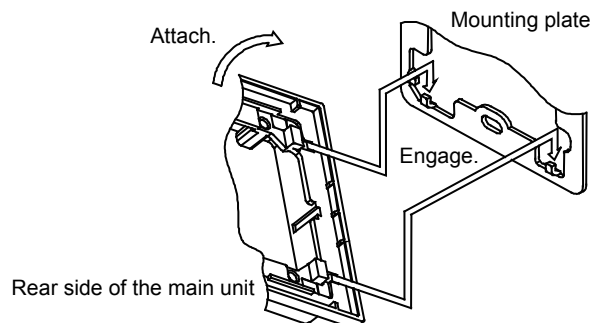

Figure 7. Assembling the Wall-direct mounting kit
- 2) Attach the main unit of the Wall-direct mounting kit to the mounting plate. (See Fig. 7.)